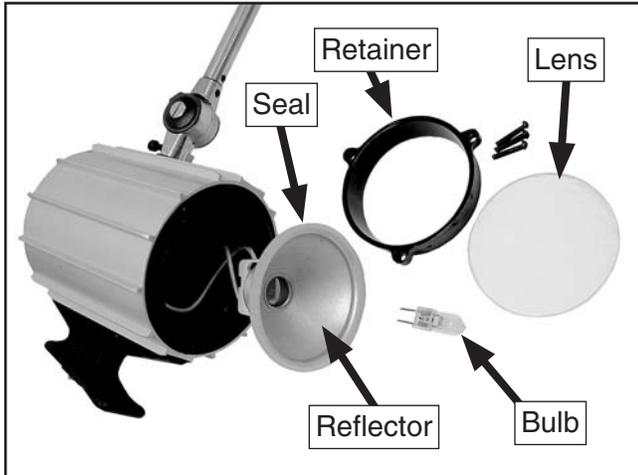

Figure 2. Lamp parts removed for bulb replacement.
2. Remove the three Phillips head screws from the lens retainer, then remove the retainer (see **Figure 2**).